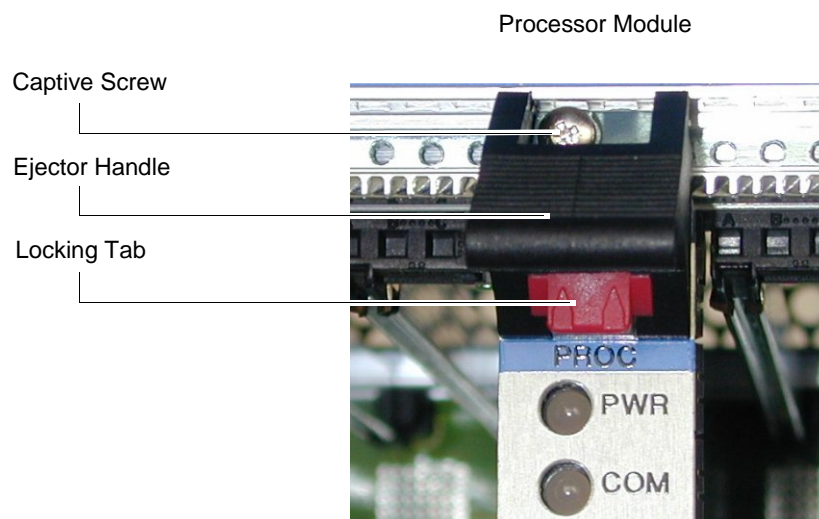

Figure 2-9 Processor Module Upper Ejector
2. With a cross-head screwdriver, loosen the screw above the upper ejector (shown in Figure 2-9) and the screw below the lower ejector of the processor module you are replacing.